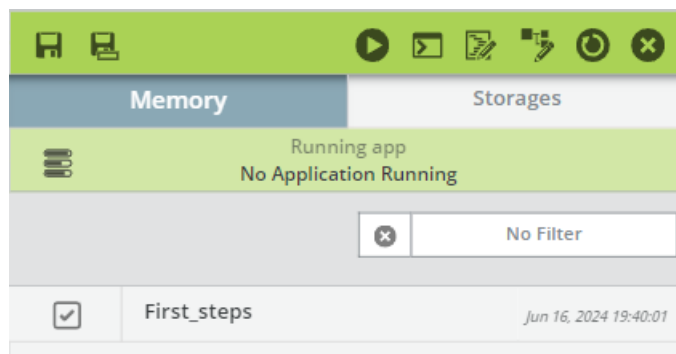

Figure 10: Display of the `First_steps` application in the `Memory` tab of the VAL3 applications window.
**Assumption:** The `First_steps` application is loaded in the controller's RAM (see figure 10), which gives access to the menu described in the figure below.
- The `First_steps` application is loaded into RAM's controller (see figure 10).
The `First_steps` application being loaded in the controller's RAM, go to the page described in figure 10 (after 2 successive presses of the **Back** key  if you come from the menu described in the previous figure). The box corresponding to the application being checked (which sets the application 'at the top' of the execution stack if several applications are loaded into RAM (which is not the case here)), the application is launched by pressing the **Run** button  (in the menu bar), then by pressing: the **Move/Hold** button  of the *teach pendant* once, then a second time continuously, as well as on the *enabling device* (knowing that the arm movement stops as soon as the **Move/Hold** button or the *enabling device* is released).
Be sure that the `First_steps` application is stopped as indicated by the message **No Application Running**  displayed on the *teach pendant*; if this is not the case, the application can be stopped by pressing the **stop** button , at the top right of the *teach pendant*. Once the box corresponding to the `First_steps` application has been checked (see figure 10), it is closed by pressing the **Close** button , at the top right of the *teach pendant*, which removes it from the RAM (Memory).